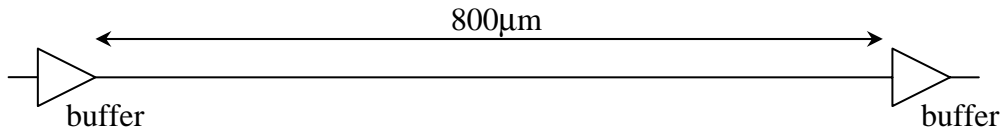

Figure 1
c. *In a particular technology, for the only available buffer, the output capacitance, C_{out} , is 10fF whilst its input capacitance, C_{in} , is 1.5fF and its effective output resistance is 400Ω. The capacitance per unit length of the wiring is 0.3fF/μm and its resistance per unit length is 2.9Ω/μm. A circuit is set up as shown in **Figure 1**.*